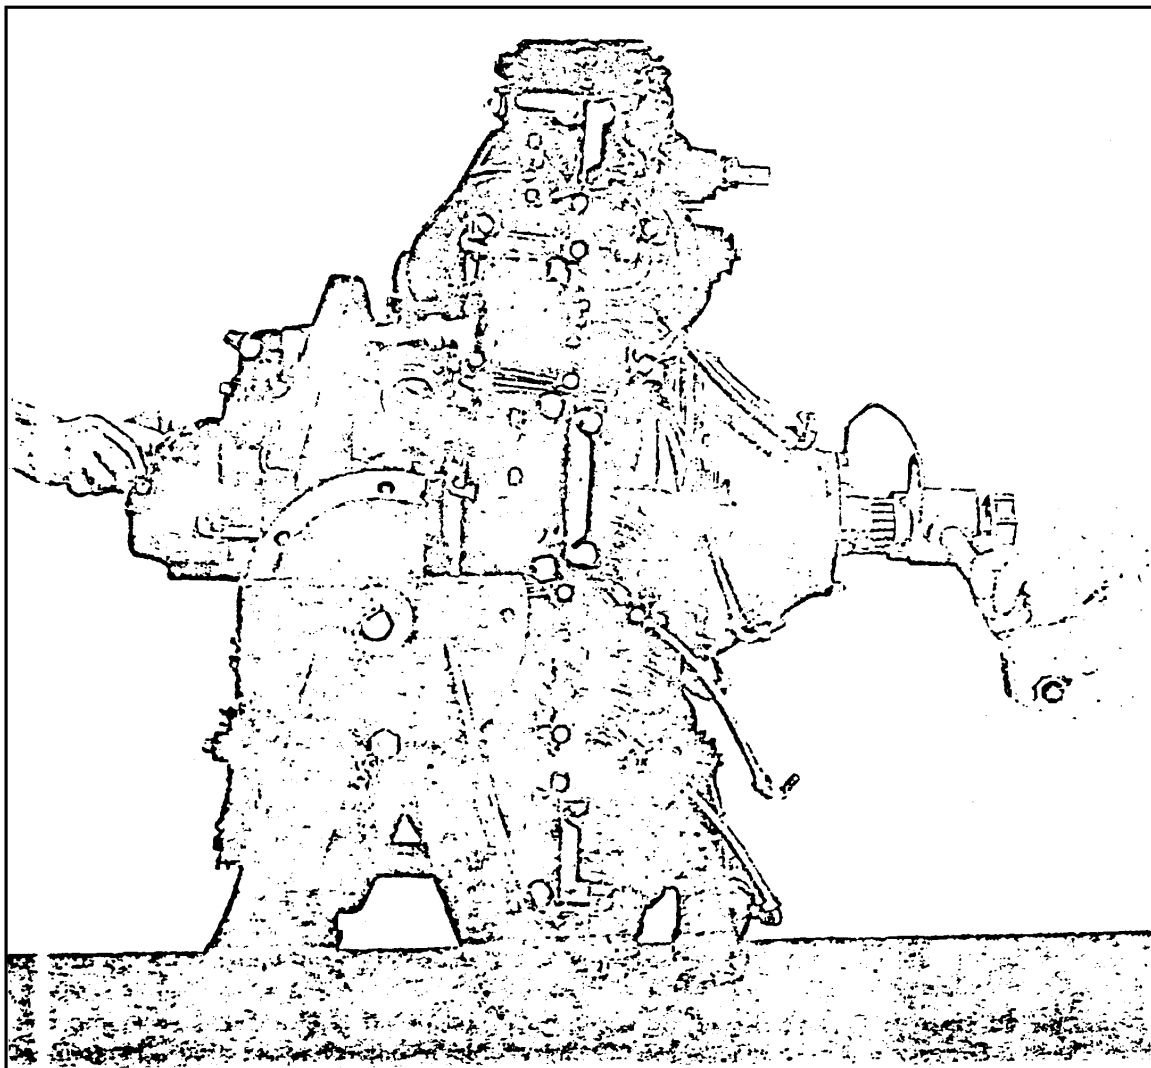

FIGURE 68—Timing Magnetos to the Engine
**MAGNETO TIMING** Turn the crankshaft in the direction of normal rotation until the timing disc indicates 25° before top center on the compression stroke of No. 1 cylinder piston. (Refer to figure 68.) When the piston is in this position, both valves are closed. Apply a heavy grade of vaseline to the spline of the magneto coupling gear and drive, and place the right magneto into position on the rear section of the crankcase, noting that the marks on the magneto distributor gear index with the marks on the front cover. If a magneto pilot spacer is used, make sure that this part is in place.